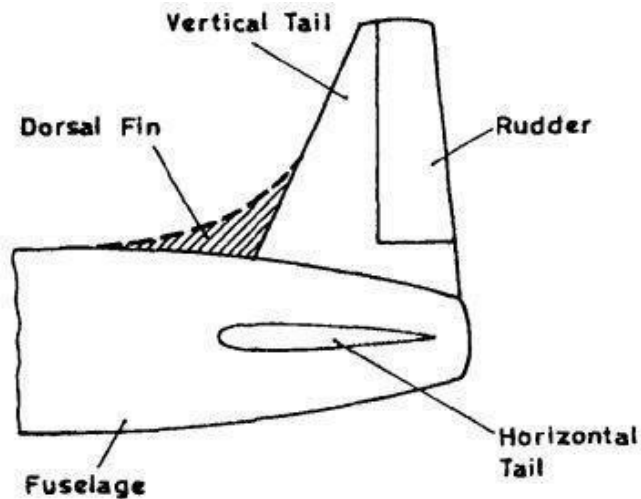

Fig. 3.90 Dorsal fin.
*Dorsal fin use to prevent rudder lock.* Another method of preventing rudder lock is the use of a device called a dorsal fin. As we know, the stall angle of a given lifting surface increases as the aspect ratio is reduced (see Chapter 1). Extending the chord of inboard sections adds area without extending the span so that the aspect ratio decreases. This form of extension is known as a dorsal fin as shown in Fig. 3.90. Addition of a suitably sized dorsal fin helps to delay the vertical tail stall to higher sideslip (Fig. 3.91a) and minimizes the possibility of rudder lock. Also, the dorsal fin makes the pedal forces vary monotonically with sideslip as indicated in Fig. 3.91b.